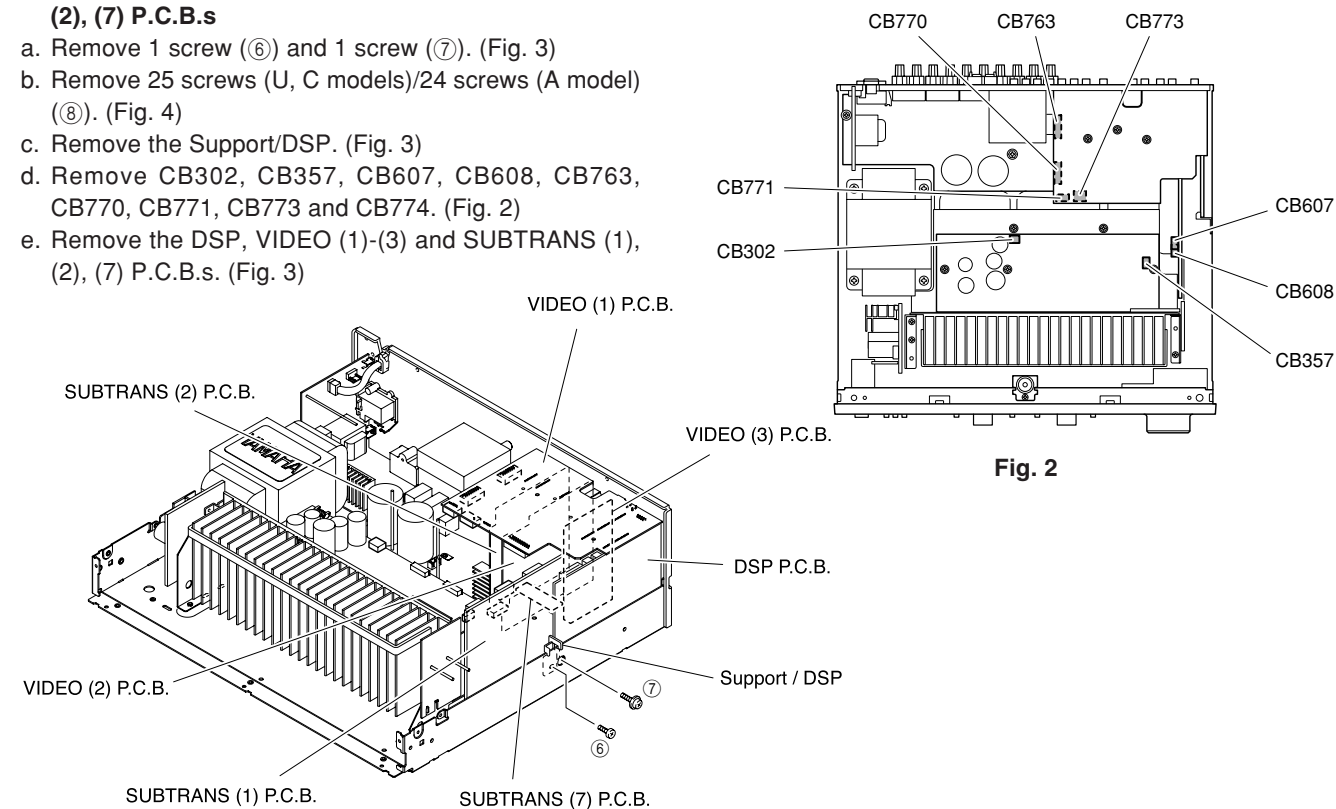

Fig. 3
3. Removal of DSP, VIDEO (1)-(3) and SUBTRANS (1), (2), (7) P.C.B.s
- Remove 1 screw (6) and 1 screw (7). (Fig. 3)
- Remove the Support/DSP. (Fig. 3)
- Remove the DSP, VIDEO (1)-(3) and SUBTRANS (1), (2), (7) P.C.B.s. (Fig. 3)
- Remove 1 screw (6). (Fig. 3)